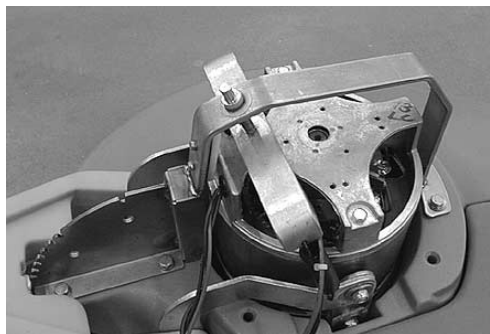

Fig. 5
5. Remove motor cover. Do not disconnect any wiring (Figure 5).